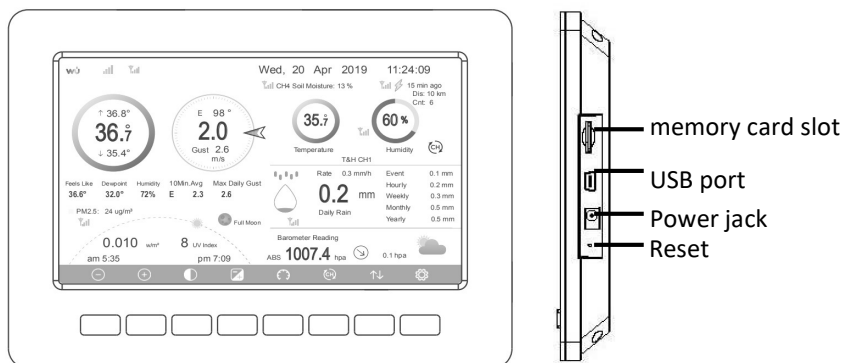

Figure 1: Display console
- Use a screw or nail to attach the remote sensor to the wall, as shown in Figure 1
- Hang the remote sensor using a cord, as shown in Figure 1